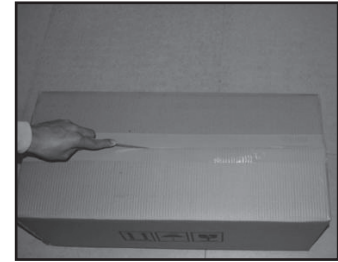

Fig 1
1. Open the Center Support assembly box as shown in Fig. 1.